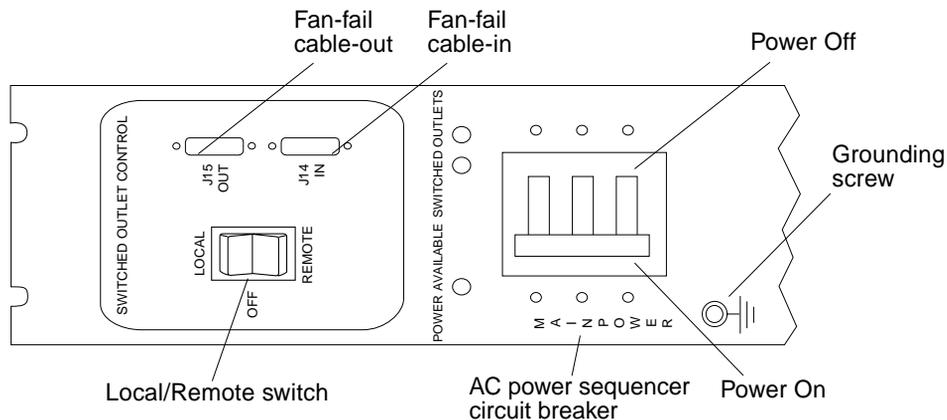

FIGURE 6-2 AC Power Sequencer Control Panel
2. Turn the AC power sequencer circuit breakers at the bottom front and bottom back of the rack to Off (FIGURE 6-2).
4. Set the Local/Remote switch on the rack to Remote (FIGURE 6-2).
5. Turn the AC power sequencer circuit breakers on the rack to On (FIGURE 6-2).
3. At the bottom of the rack, remove the trim panels and turn the AC power sequencer circuit breakers to Off (FIGURE 6-2 on page 6-4).